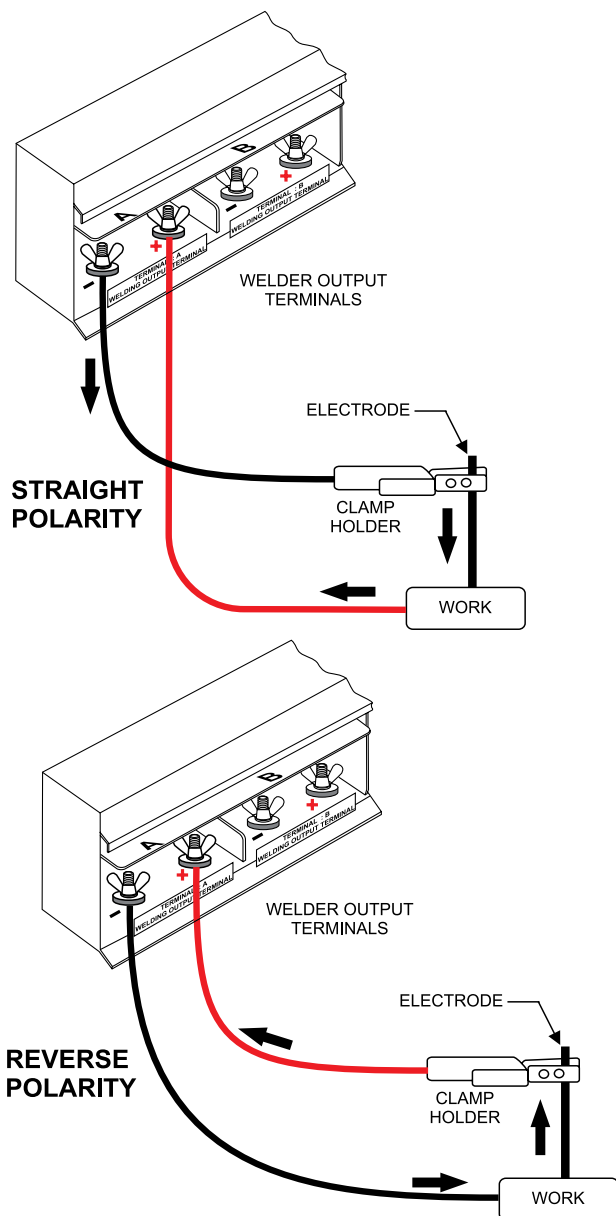

Figure 16. Welding Cable Connections (Electrode Type Correct)
- Attach the clamp holder to the electrode as shown in Figure 16 and Figure 17.